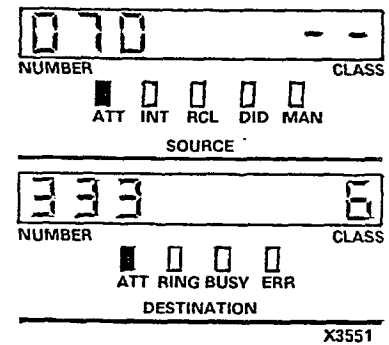

Figure 300-5
- * SOURCE display (Figure 300-5) shows equipment number of calling trunk